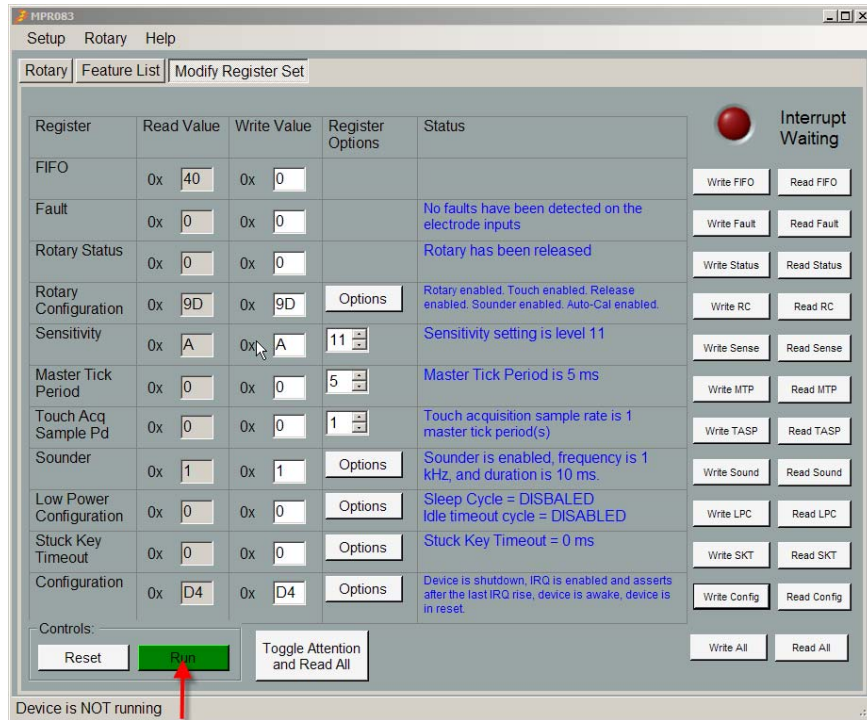
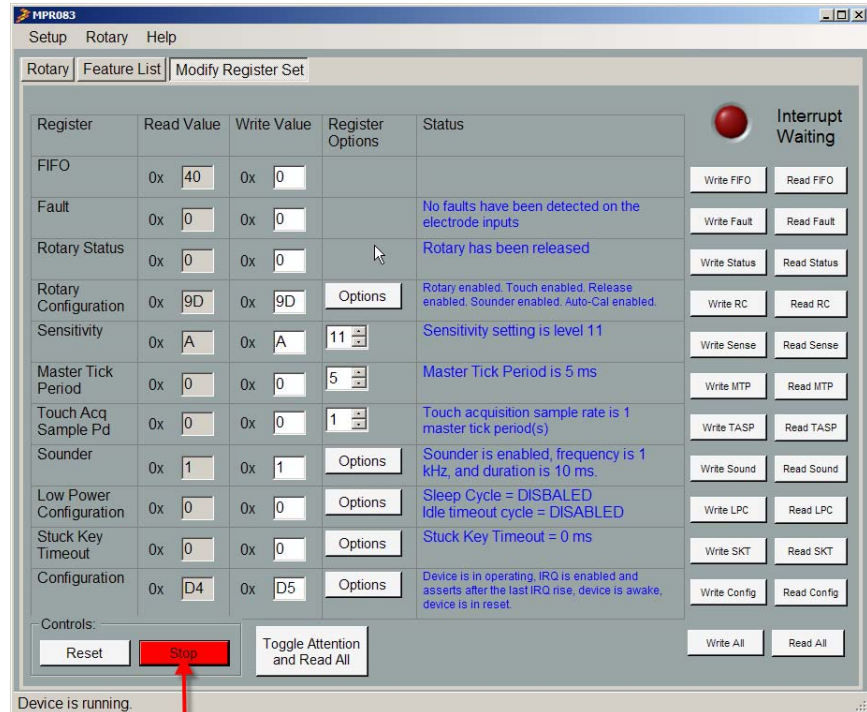

Figure 29. Run button, electrodes scanned
Figure 30. Stop button, electrodes not being scanned
- A. The “Run” button works in the same way that the run bit in the Configuration register. If the “Run” button is selected, the button will change to “Stop” and turn red (Figure 30). If the button is selected while in Stop and red, it will change to Run and green (Figure 29). This action will enable scanning of the electrodes for touch detection. If the same button is pressed while red and text saying Stop, the scanning of the electrodes will not occur.